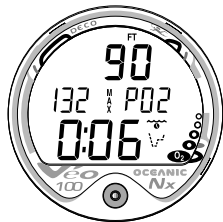

Fig. 27 - OXYGEN IN CONTROL
- If the O2BG and O2 symbol are displayed (Fig. 27), it is calculated to be controlled by oxygen loading.